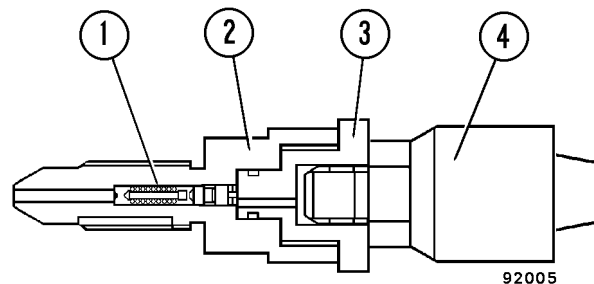
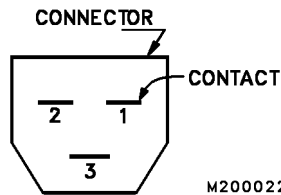

FIGURE 6-11. PRESSURE SENSOR.
FIGURE 6-12. SENSOR SIDE CONNECTOR VIEW
2. Hold valve (2, Figure 6-11) with wrench while removing the **adapter/sensor assembly (3 & 4)**.
3. Remove sensor (4) from adapter (3).
1. Install new O-ring on sensor (4, Figure 6-11) and install sensor into adapter (3). Tighten sensor to **22–29 ft.lbs. (30–39 N.m) torque.**
2. Install new O-ring on adapter (3) and install complete **adapter/sensor assembly** into valve (2). Hold valve body and tighten **adapter/sensor assembly** to **103 ft.lbs. (176 N.m) torque.**
3. Connect sensor wiring to truck wiring harness. The sensors have three wires. Be sure that wires are connected correctly. (Figure 6-12)